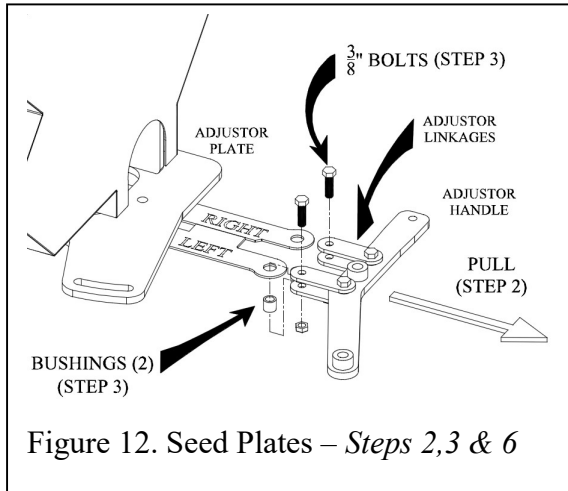

Figure 12. Seed Plates – Steps 2,3 & 6
2. Pull straight out on the adjuster handle and slide the seed plate assembly out of the seed box as shown in Figure 12.
3. Using the 9/16" wrenches, loosen and remove the 3/8" bolts connecting both seed plates to the adjuster linkages as shown in Figure 12.
- Reassemble the seed plate assembly; be sure the left and right plates are oriented as shown in Figure 12.